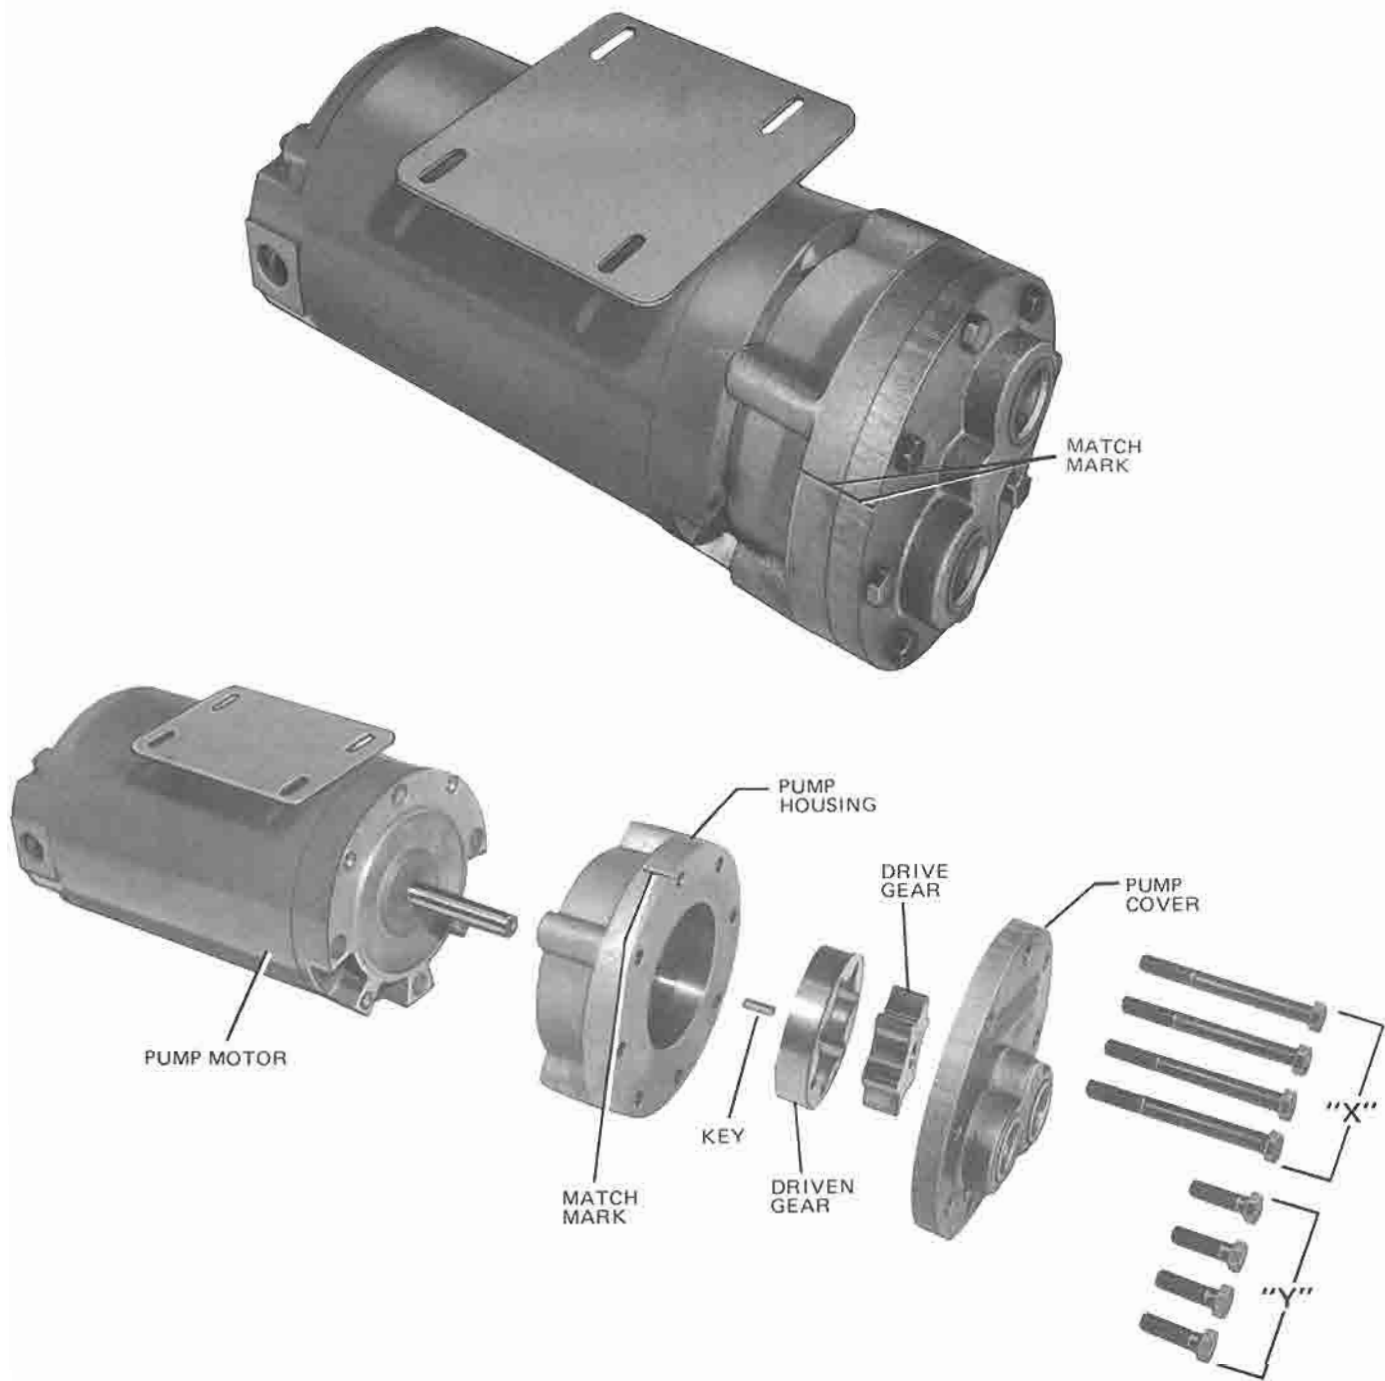

FIG. 45 – COMPLETE PUMP AND MOTOR ASSEMBLY
6. Lubricate the face and the teflon coated shaft bearing of the cover assembly. Locate the cover as shown in Fig. 45 and gently slide onto the end of the shaft. Line up holes and place "X" long screws and "Y" short screws in their proper holes according to Fig. 42. Tighten the "X" long screws in a 1, 3, 2, 4 sequence. Tighten the "Y" short screws in a 5, 7, 6, 8 sequence. Torque screws to 15 foot lbs. using the alternating tightening method.